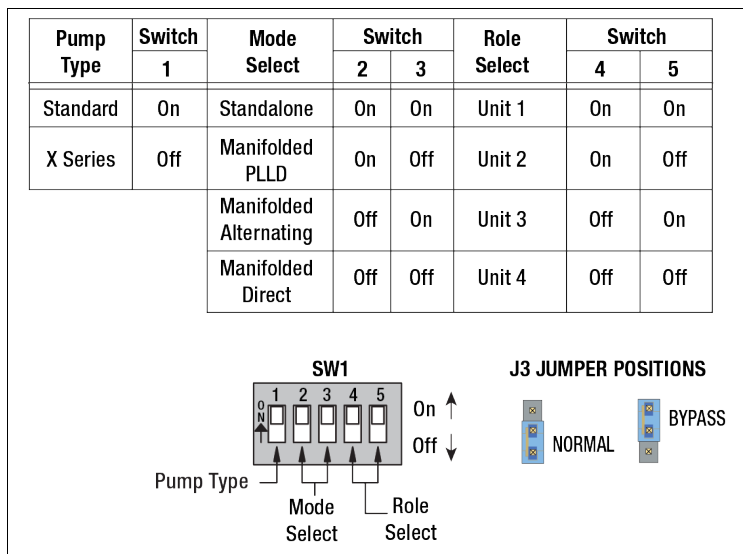

Figure A-5. SW1 Switch Setup chart
1. The unit must be calibrated every time the Motor Type programming is performed even if the Motor Type does not change. Set the five DIP switches to the desired pump type and mode / role select configuration (see Figure A-5). NOTE: The unit will not calibrate if a Motor Type has not been programmed.